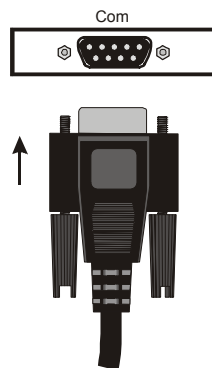

Figure 1-18
- √ If you are using a serial cable, connect it to an available COM port on the back of your computer as shown in Figure 1-18.